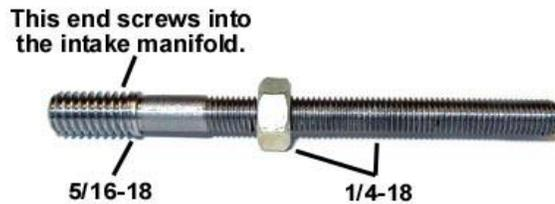

Figure 1
1. Figure 1 shows one of the carburetor/wedge plate hold-down mounting studs. NOTE: Four are packaged with the wedge plate. All are the same length, but they will be trimmed later after the installation.